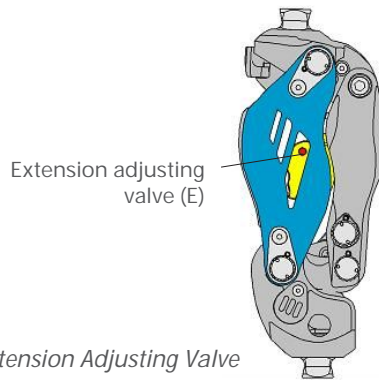
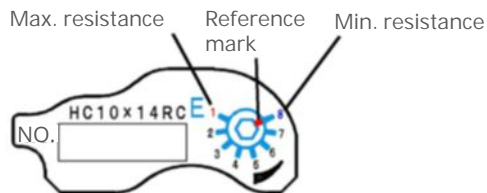

Fig. 13 - Location of the Extension Adjusting Valve
Fig. 14 - Graduated Scale of the Extension Adjusting Valve
If terminal impact occurs at the end of the swing phase, adjust the extension resistance. As shown in Fig. 13, the extension adjusting valve (E) is located on the left when viewed from the user. As shown in Fig. 14, the scale is graduated from "1" to "8". "1" corresponds to the highest hydraulic resistance, and "8" corresponds to the lowest.